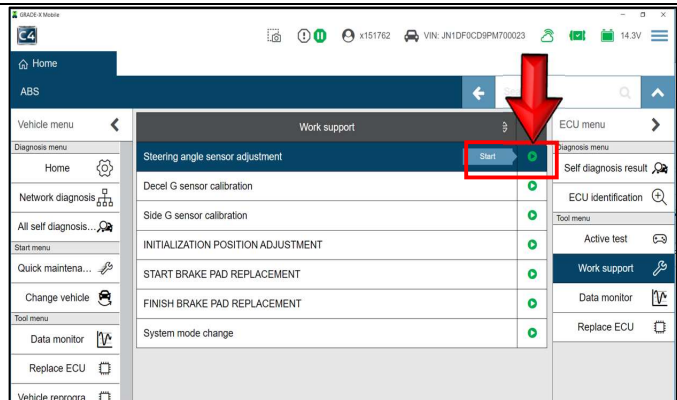

Figure 28
26. Select **Steering angle sensor adjustment**. (Figure 28)